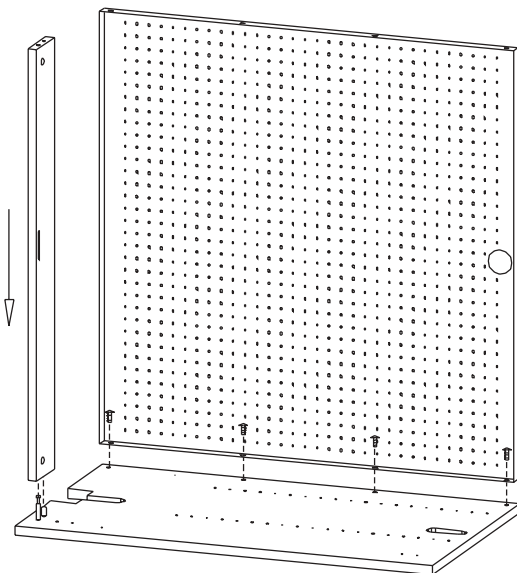

FIGURE 3
Position the top rail onto the locking screw and wood dowel in the side panel with holes facing in as shown in **FIGURE 3**. Attach the back panel onto the side panel with screws (GG) as shown. **CAREFULLY** position this assembly onto the other side panel as shown in **FIGURE 4**. Attach the back panel on with screws (GG). Once the back panel is attached, **TIGHTEN THE CAM LOCK ON THE TOP RAIL.**